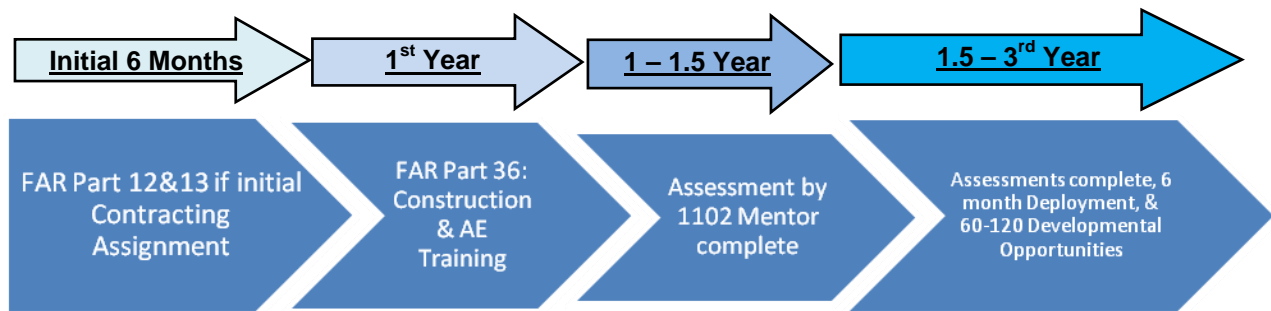

Figure 1-1. USACE 51C Training and Developmental timeline.
8. **Timeline.** Figure 1-1 shows a standard timeline of a 51C in USACE for a two to three year assignment. End state is to build the 51C with the unique USACE skill set that does not exist in the standard Army model.